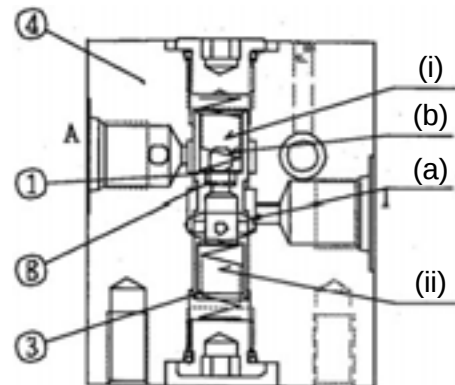
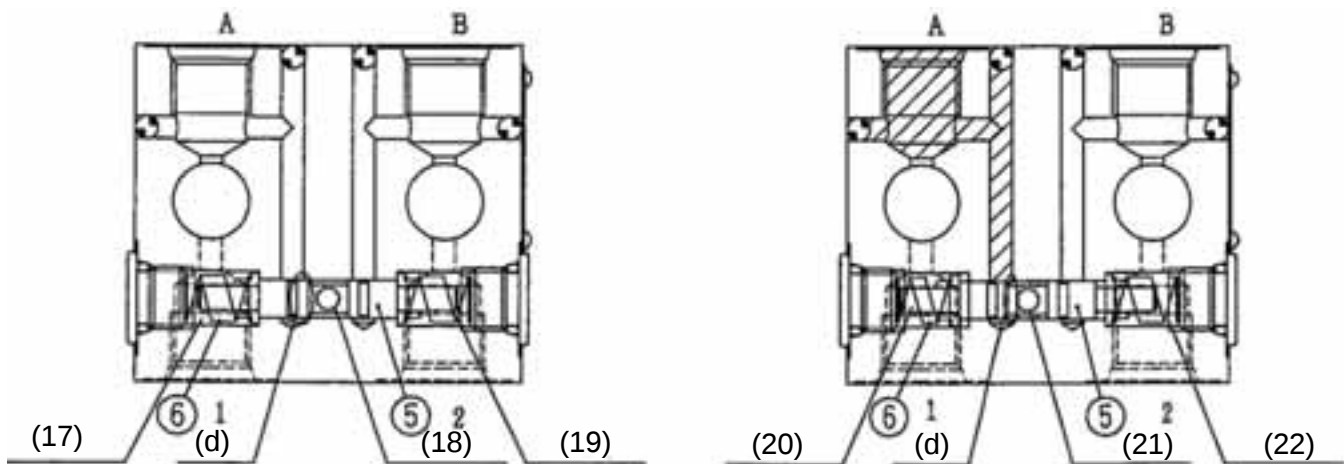

Fig. 2.
Fig. 4.
Port A to Port 1: Flow control See Fig. 2.
Port A to Port 1: Flow control released See Fig. 4.
Usually the spool (5) is held at the neutral position by the left and right springs (6). The pressure oil from the port A is therefore cut from the port T with the hole (d) in between. As discussed in Fig. 2, the flow through the port A is controlled. (Left layout in Fig. 4)